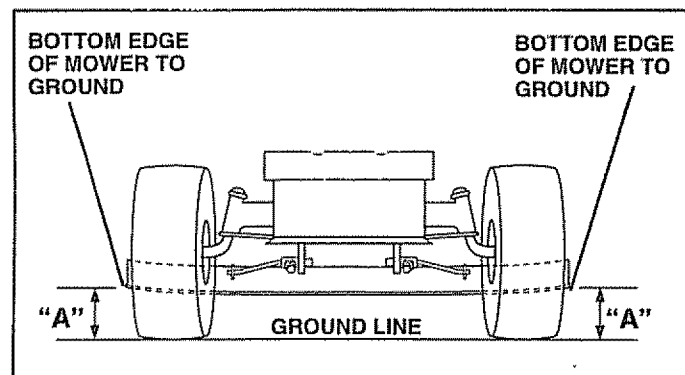

FIG. 21
**SIDE-TO-SIDE ADJUSTMENT** (See Figs. 21 and 22)